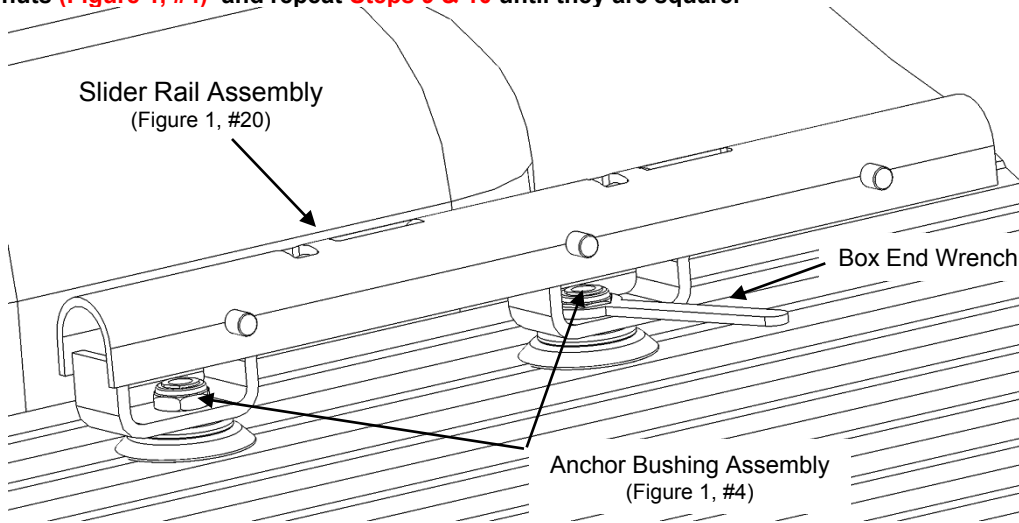

Figure 17
10. Once the slider rail assemblies (Figure 1, #20) are attached to each other, snug tight (no vertical play in anchor bushing assembly) all four 1" jam nuts (Figure 1, #4) inside the slider rails using a 1-1/2" box end wrench as it sits in the pucks in the bed of the truck. Finish tightening each jam nut (Figure 1, #4) by turning the nut 1/4 turn more to achieve the required torque. See Figure 17. Measure the slider rails (Figure 1, #20) after the 1" jam nuts (Figure 1, #4) are torqued, to be sure that they remained square and equal to the smaller dimension measured in Step 8. While tightening. If they are not square and equal to the smaller dimension measured in Step 8, then loosen the 1" jam nuts (Figure 1, #4) and repeat Steps 9 & 10 until they are square.